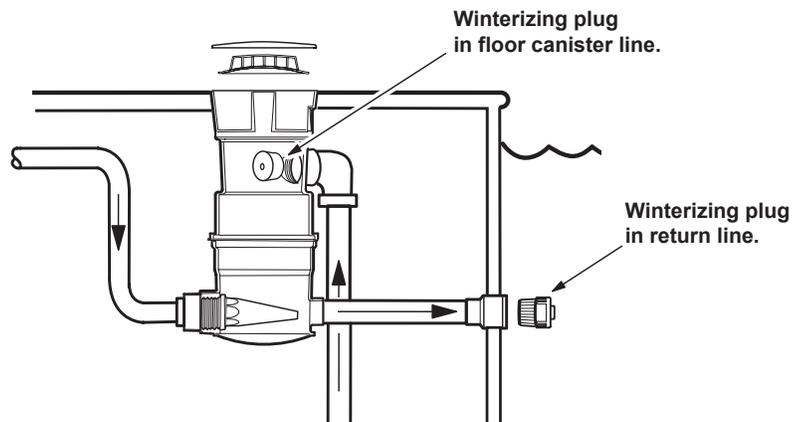

Figure 15. Winterizing the Jandy Leaf-B-Gone
2. Remove the return-line wall fitting and replace it with a #9-1/2 rubber winterizing plug (3" threaded cap for raised spas or 1-1/2" threaded plug for vinyl pools) (see Figure 15).
3. Clear all water from the canister. Using compressed air, blow out the floor canister line. Install a 2-1/2" winterizing plug in the canister pipe fitting (see Figure 15).